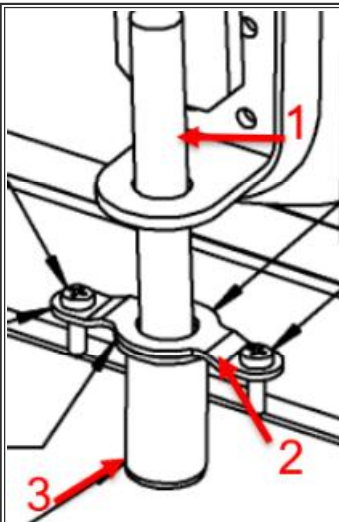

Figure 2: 3pt lock rod lower hole
1. Remove lower lock bar hole guide and nylon floor insert (see figure 2 above), and save for use in later step